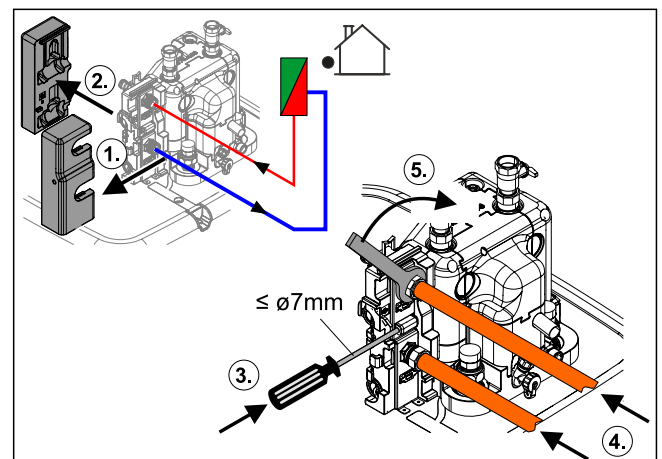

Fig. 3-29 Establishing the hydraulic connection to the outdoor unit
- Refer to Fig. 3-1 up to Fig. 3-4 and from Tab. 2-1 for the position and dimensions of the heater connections and the outdoor unit connections. The details of the hydraulic connection from the indoor unit to the water inlet and outlet of the outdoor unit can be seen in Fig. 3-29.